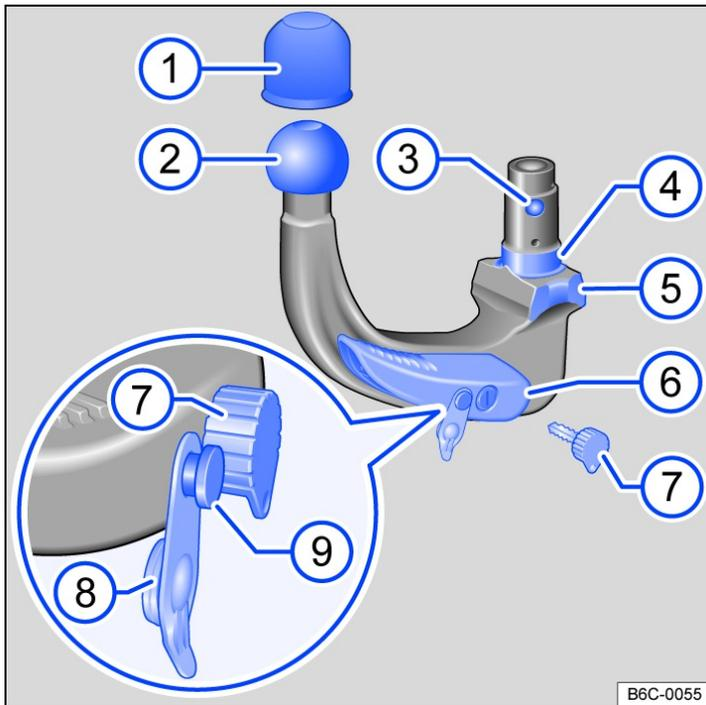

Fig. 1 Overview: removable ball head.
- If the smallest diameter on the ball head → Fig. 1 (3) is smaller than 49 mm, do not use the towing bracket.
- Remove the lock cap *→ Fig. 1* (8) from the lock in the locking lever and insert the key (7) into the lock.
- Turn the key (7) anti-clockwise until the part of the key with the hole is at the top.
- Hold the neck of the ball head under the ball head (2) with your hand.
- Press the release pin (9) and at the same time press the locking lever (6) down as far as it will go *→* ⚠. The ball head is pre-tensioned.
- Release the locking lever (6) and stow the pre-tensioned ball head safely with the vehicle toolkit.